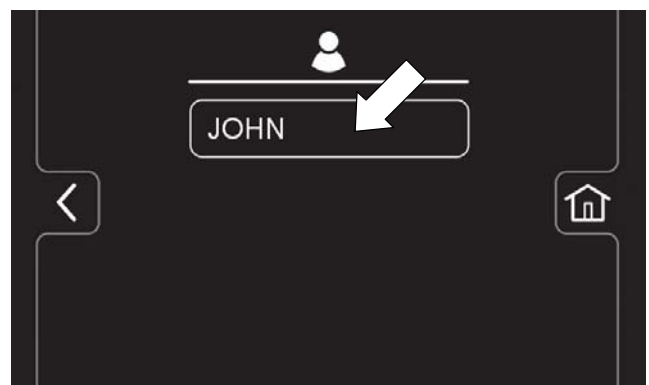

FIG. 177
7. Select a pre-assigned user profile. In this example, operator profile "JOHN" is selected (Figure 177). Turn the key off to apply the setting.